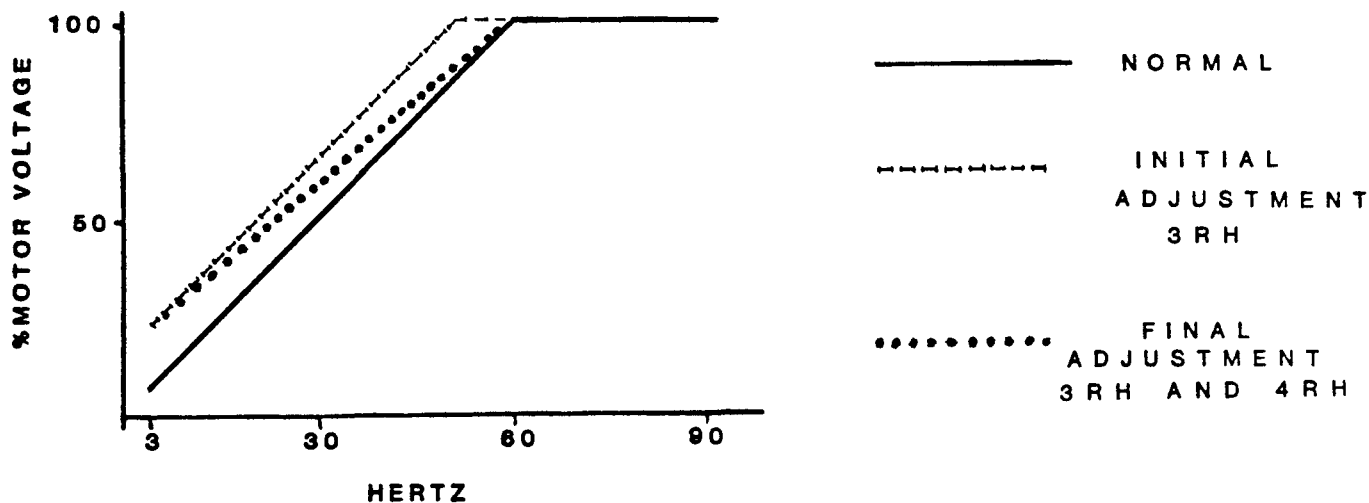

FIGURE 19
4. Motor stalling or rough running at low speeds can be corrected with 3RH (VB). Voltage boost gives more voltage at slow speeds. Care should be used when adjusting 3RH, too much voltage boost can heat up the motor and/or cause overcurrent tripping. When 3RH is adjusted, 4RH volts/hertz needs readjusting. Both adjustments interact, so several adjustments may be necessary to get the proper V/Hz ratio. Figure 19 shows a graph of V/Hz and how the adjustments change the V/Hz ratio.